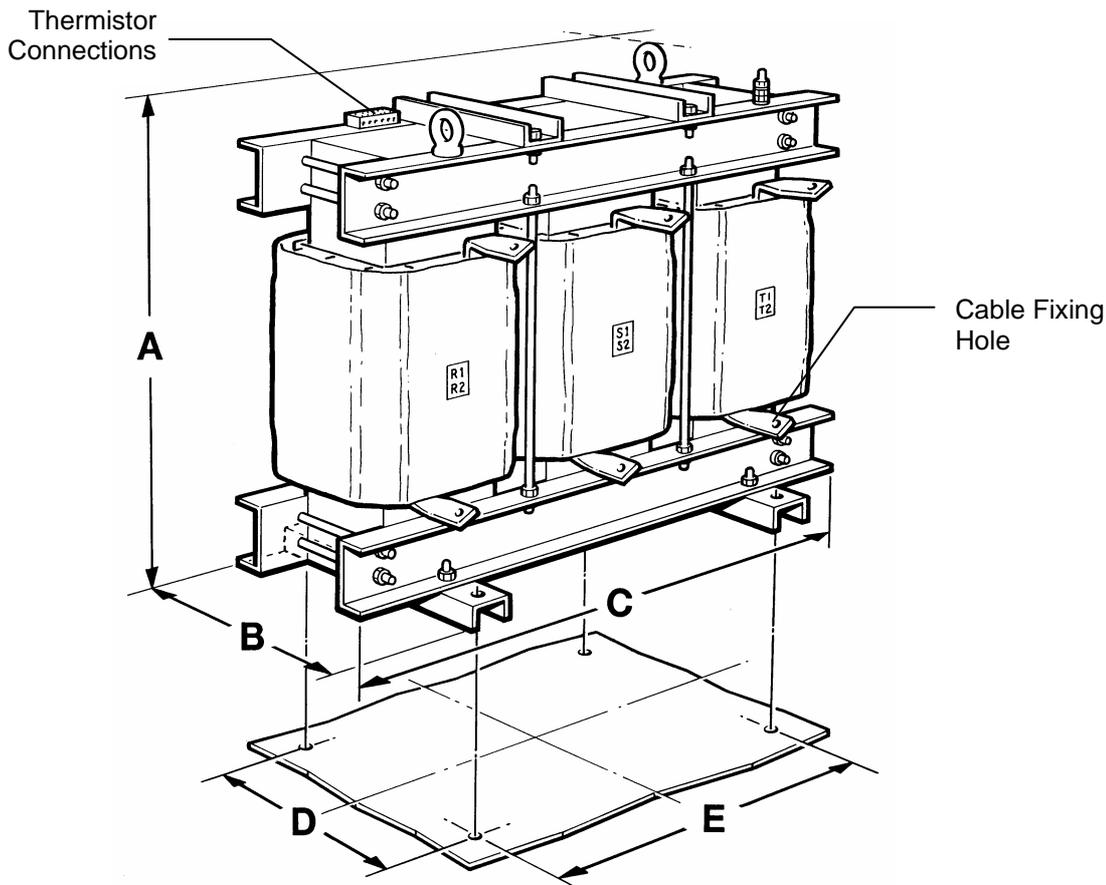

Figure 2-2 Line reactor (typical)
The AC line reactor is constructed in two parts to allow the PWM filter to be connected between them. These parts are designated /01 and /02, and are typically as shown in Figure 2-2. Part /02 is considerably larger than part /01. Physical dimensions are given in Tables 2-4 and 2-5, fixing dimensions are given in Table 2-6.
2.4.1 Physical Dimensions, Inductance and Losses (See Figure 2-2)
(See Figure 2-2)